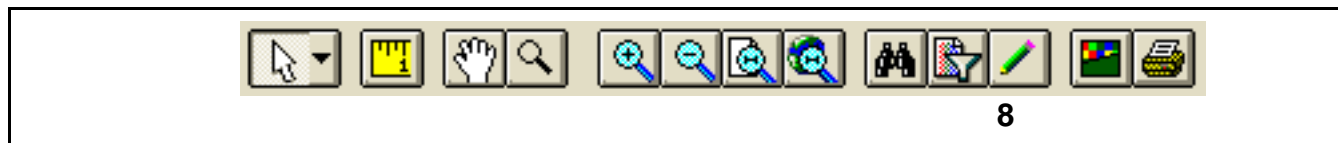

FIG. 16
FIG. 16: Once a user has completed a **Product Application Map**, a new tool button becomes available. Selecting an application job, will allow the Edit Layer button (8) to become available. Clicking on this button will bring the user back to an edit session.